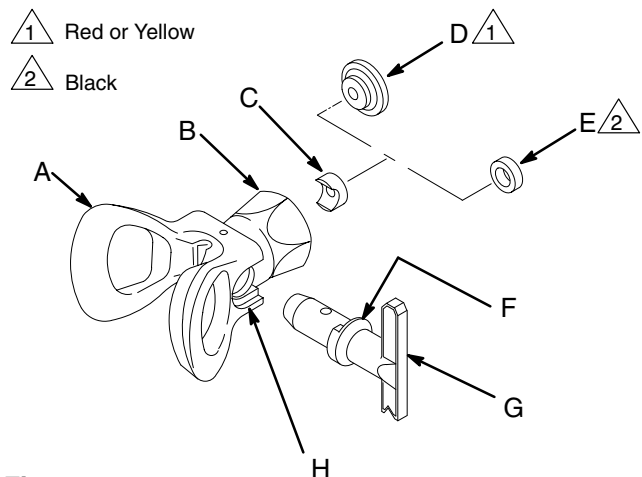

Fig. 15
Gasket selection. See Fig. 15.
- Install a SwitchTip (G) so the flange (F) on the cylinder fits into the slots (H) at the base of the tip guard (A). See Fig. 15.
- Drop in the appropriate gasket and press it down. If using the red or yellow gasket (D), be sure the flat side faces out of the retainer (A). See Fig. 15.
- Screw the tip guard snugly onto the gun, holding it in the desired position while tightening the retaining nut (B).
- NEVER use a wrench to turn the plastic tip guard (A), to avoid damaging the guard.